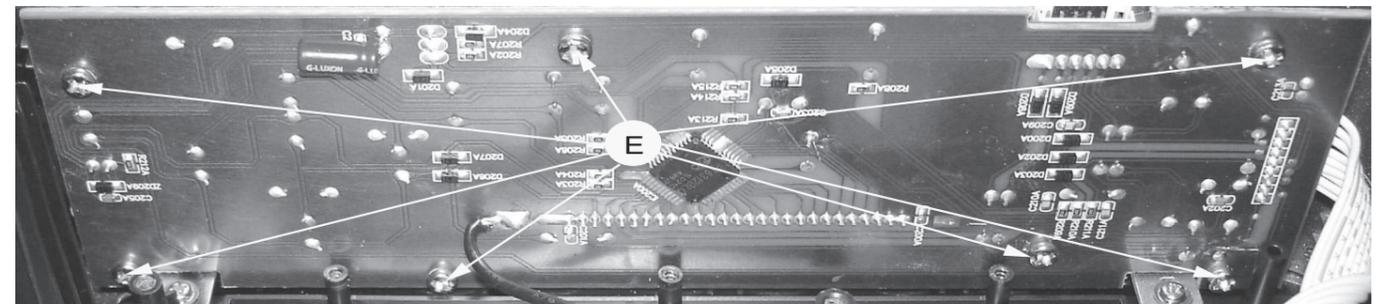

figure 5
- 1) Loosen 7 screws "E" at the KEY Panel as shown in figure 5.